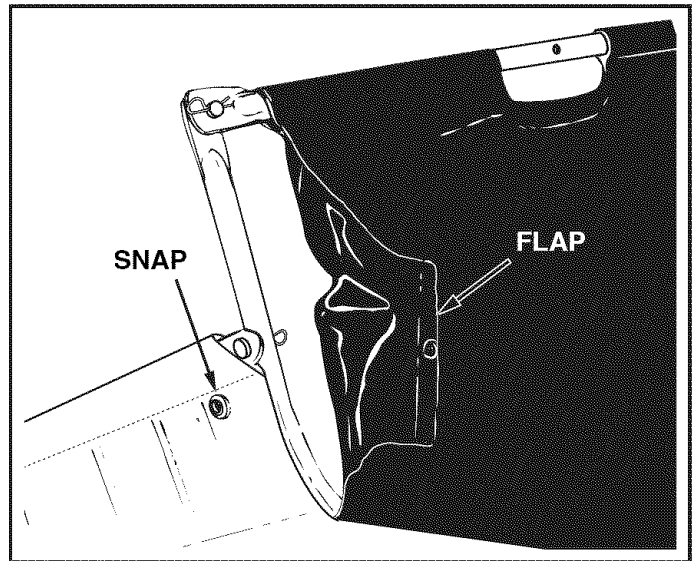

FIGURE 13
- Fold the bag flaps around the lower hopper tubes and attach to the bag bottom using the snaps. See figure 13.